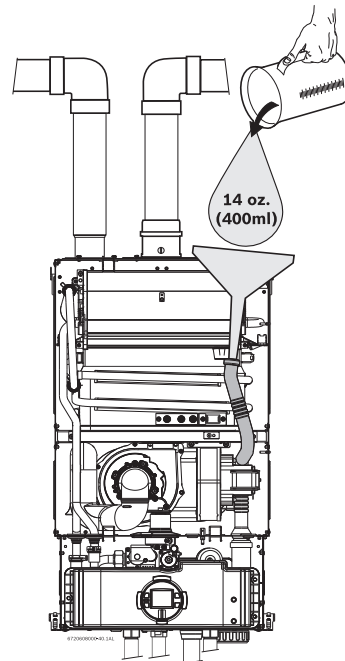

Fig. 37 Filling the condensate trap after installation
- Fill the condensate trap by pouring approximately 14 oz. (400ml) of water into the top of the drain tube. To avoid damage to the appliance use a funnel in this operation, see Fig. 37, page 31.